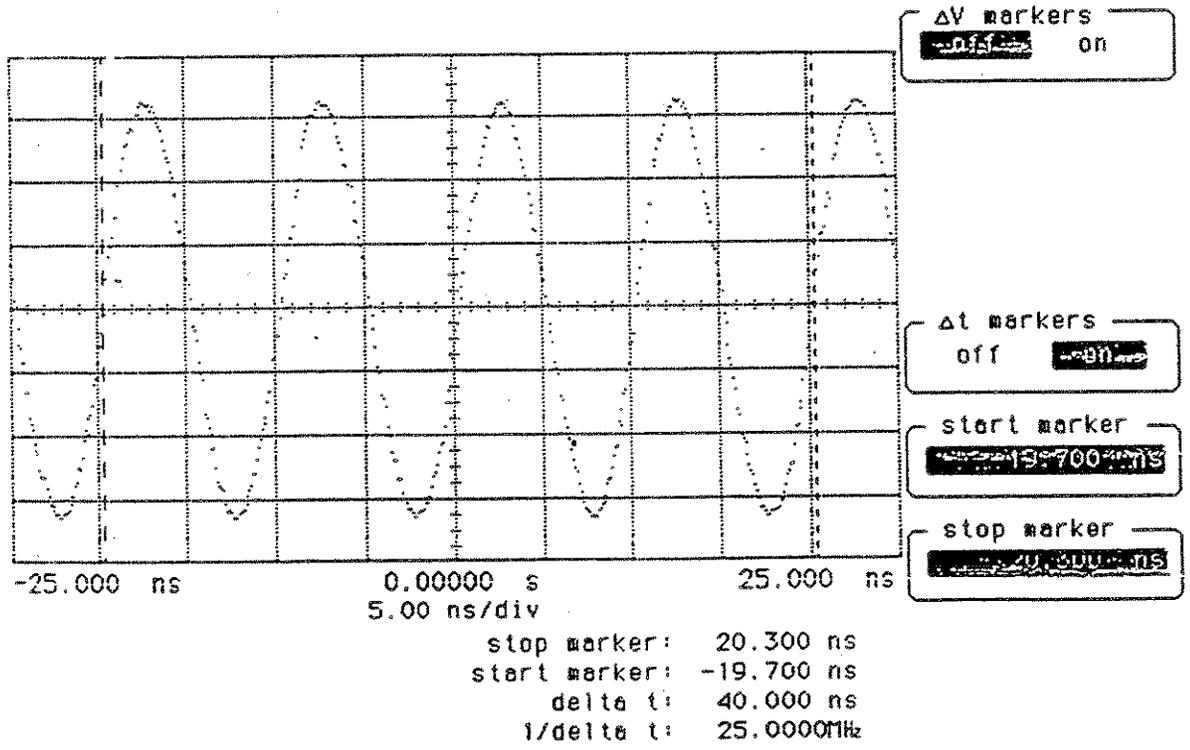

Figure 3-2. Delta-t Accuracy Test Result
10. Set start marker to mid-screen crossover point on left side of displayed signal as in figure 3-2.
11. Set stop marker to mid-screen crossover point on right side of displayed signal as in figure 3-2.